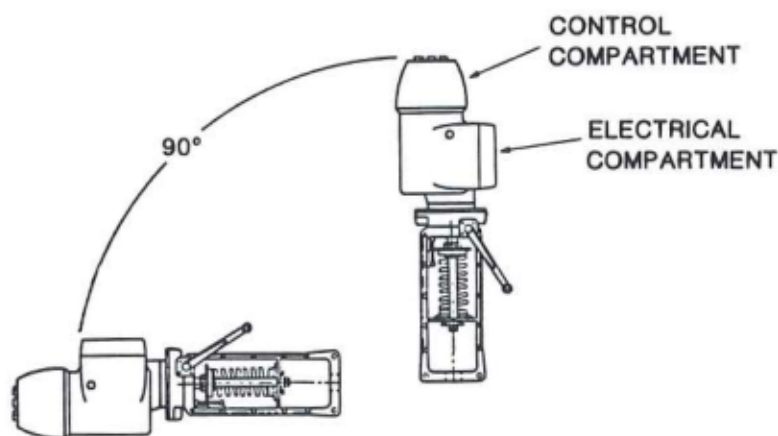

Figure 1-2. Hydramotor Mounting Positions
- (a). Carefully uncrate the Hydramotor and position it with the control compartment uppermost as seen in Figure 1-2.
- 1). The Hydramotor may be mounted in horizontal, vertical or intermediate planes as seen in Figure 1-2.
- (a). Unscrew the electrical housing cover and O-Ring (see Figure 1-2).